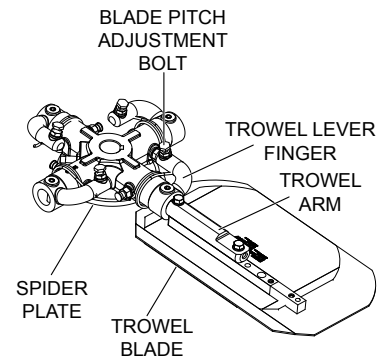

**Figure 52. Cleaning The Spark Arrester**
4. Carefully remove carbon deposits from the spark arrester screen (Figure 52) with a wire brush.